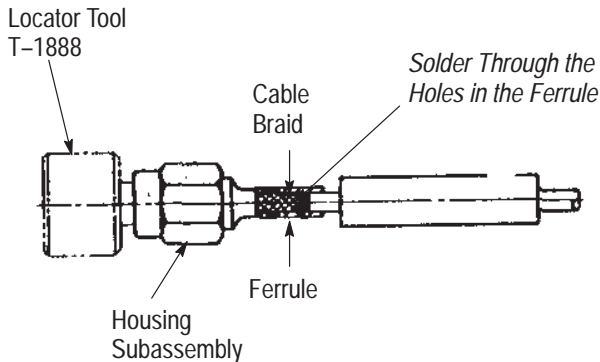

Figure 5
**2.3. Soldering Cable Braid to the Housing Subassembly** (Figure 5)